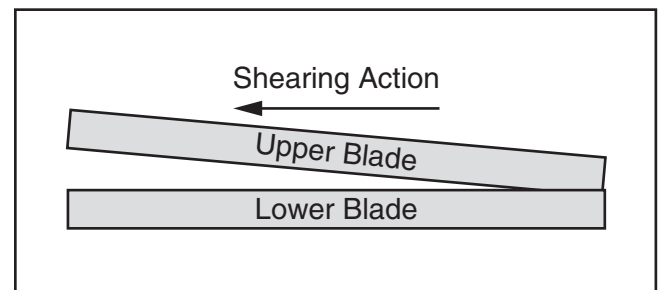

Figure 13. Blade shearing action.
- The shearing action of the blades works similarly to a pair of scissors (see the illustration in **Figure 13**). Use even pressure on the foot pedal to produce good results.